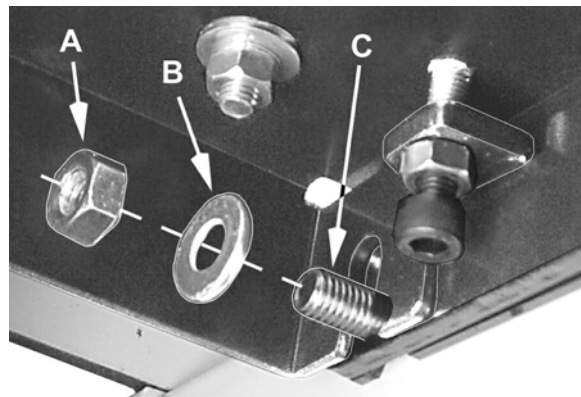

Figure 11A
17. Place M8 *flat washers* (A, Fig. 11A) and M8 *hex nuts* (B, Fig. 11A) on the *four screws* (C, Fig. 11A). Using two 13mm wrenches, tighten the hex nuts while holding the screw heads.